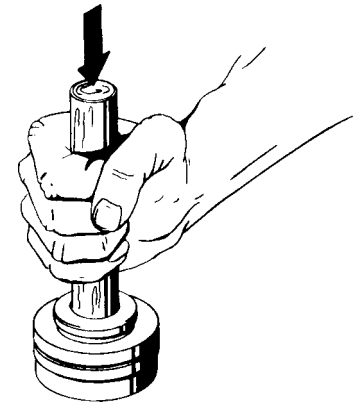

Figure 4-2
- 8. If the seal seat (#12.5) must be reused, use a wooden dowel sized to fit through the hole in the seal cup to tap it out.(refer to figure 4-2) Ceramic seal seats are particularly easy to damage. Normally, always replace the seats when servicing the pump.